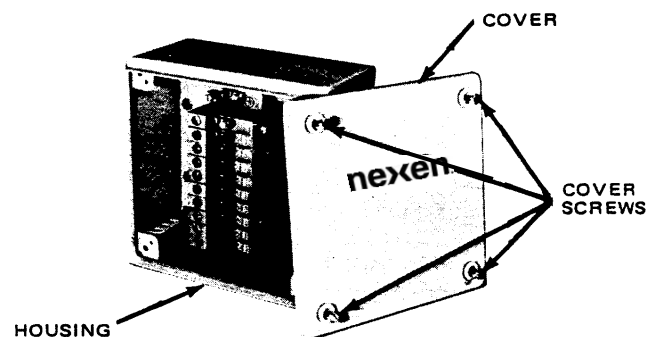

FIGURE 1
- B. Loosen Cover Screws and remove Cover (See Fig. 1).